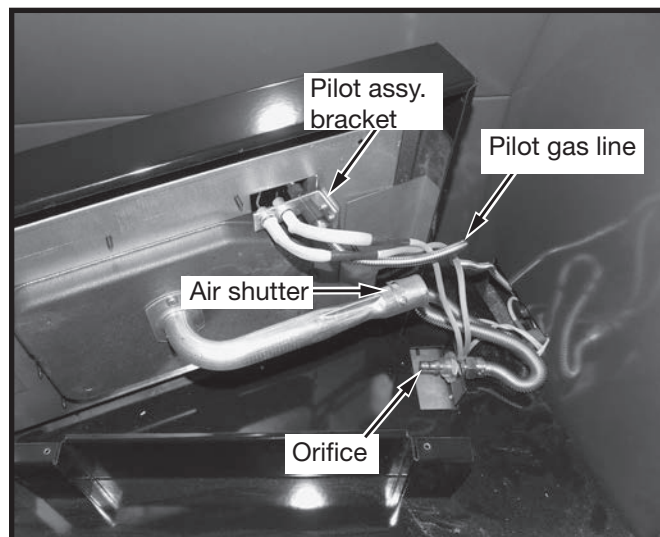
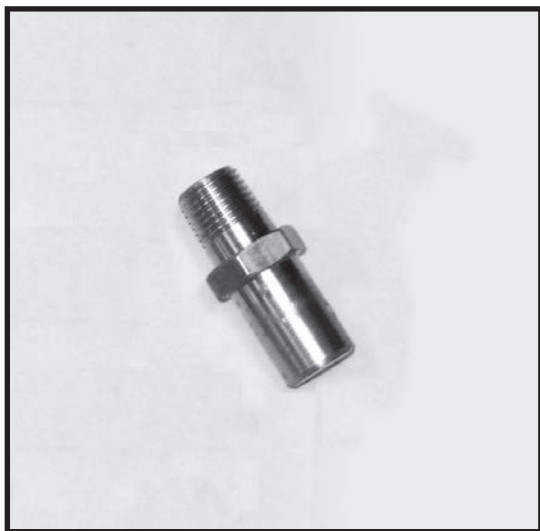
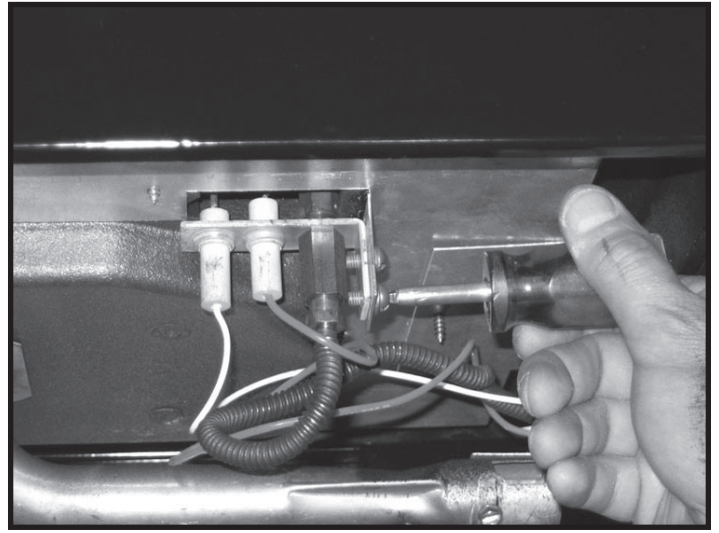

Figure 32: Underside of burner.
Figure 33: Orifice.
Figure 36: Removing pilot assembly.
7. Gently lift up the burner tray from its supports while sliding it to the left to disengage the burner tube from the orifice. Lift the tray, turn it on its side and lay it on its edge to expose the orifice and the pilot assembly (Figure 32). Remove the pilot assembly bracket with its wires and pilot gas line attached while the burner kit is on its side (See "Figure 36" on page 18).
8. Using a 1/2" wrench, undo the natural gas burner orifice (Figure 32) and replace with the propane gas orifice that comes with the conversion kit (Figure 33). Apply a small amount of pipe joint compound to the threads of the propane burner orifice to ensure a good seal, before screwing it into the fitting.
10. Remove the 2 screws holding the pilot assembly in place with a short screwdriver (Figure 36).